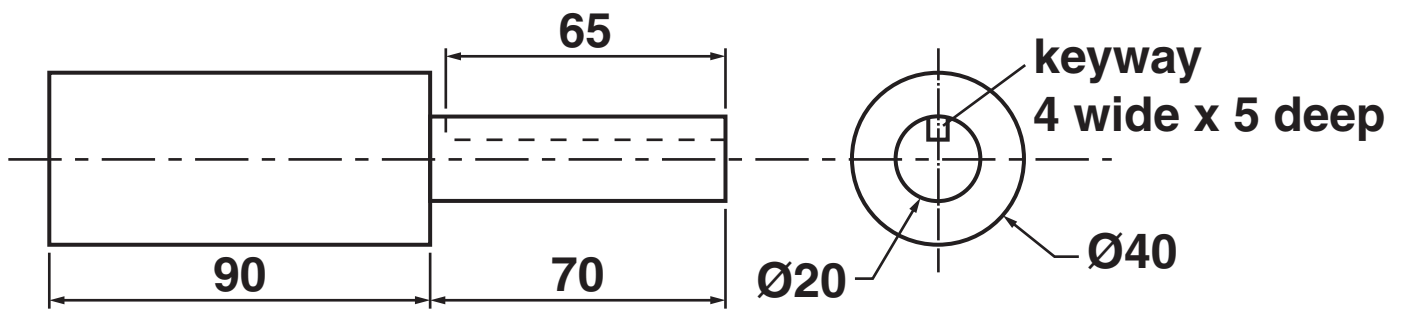

Fig. 3
Fig. 3 shows the drive shaft from the lifting platform.
- (e) (i) State a SUITABLE SPECIFIC MATERIAL for the drive shaft shown in Fig. 3 and give TWO properties or characteristics that make the material suitable for this use.**
(ii) Describe, in detail, how the drive shaft shown in Fig. 3 would be manufactured.